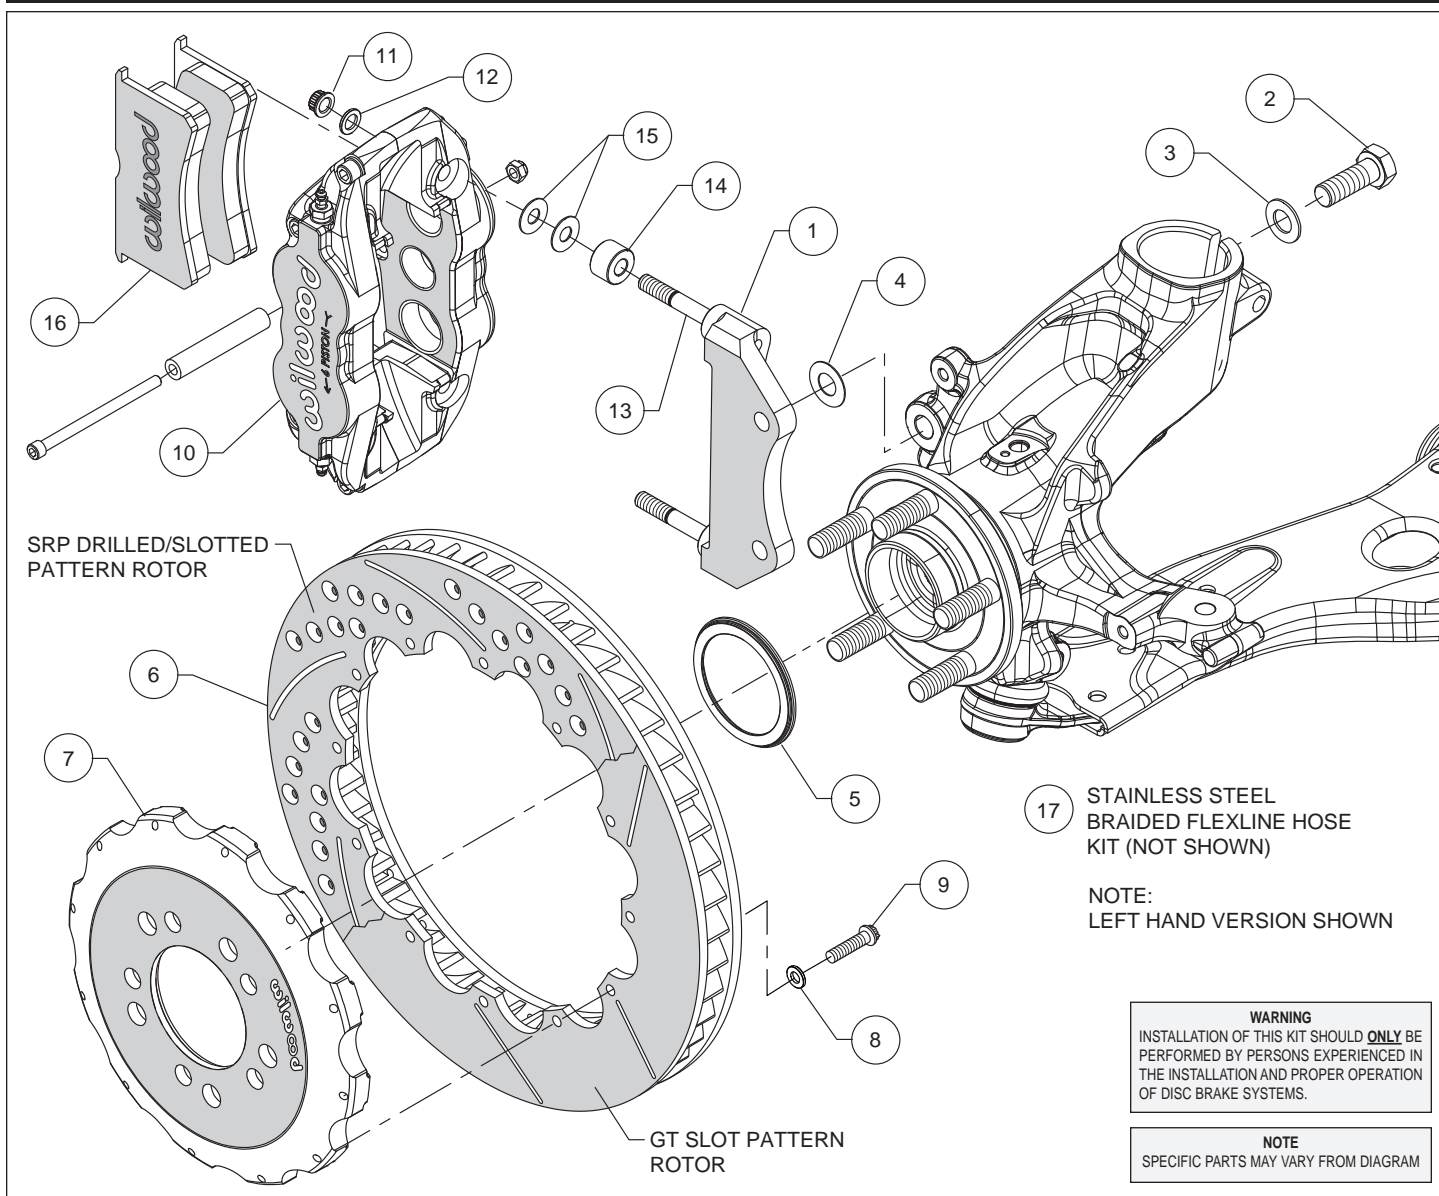
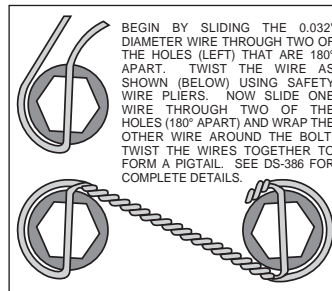

Figure 1. Typical Installation Configuration
Figure 3. Safety Wire Diagram
Assembly Instructions (numbers in parenthesis refer to the parts list and Figure 1 on the preceding pages):
- The caliper mount bracket (1) should initially be installed with clean, dry threads on the mounting bolts. Orient the bracket as shown in Figure 1 and Photo 1, and install using washers (3) and bolts (2). Initially place one .029 thick shim (4) on each bolt between the bracket and upright, Figure 1. Temporarily tighten the mounting bolts. **NOTE:** *The bracket must fit squarely against the mount bosses on the upright.* Inspect for interference from casting irregularities, machining ridges, burrs, etc. Later, after the caliper alignment has been checked, the mount bolts will be secured using red *Loctite*[®] 271.
- Orient the rotor (6) and the hat (7) as shown in Figure 1 and Photo 2. Attach rotor to hat using bolts (9) and washers (8). Using an alternating sequence, apply red *Loctite*[®] 271 to the threads, and torque to 155 **in-lbs**. For an added measure of security, the bolts may be safety wired using standard 0.032 inch diameter stainless steel safety wire as shown in Figure 3. Please refer to Wilwood's data sheet DS-386 (available at www.wilwood.com/Pdf/DataSheets/ds386.pdf) for complete safety wire installation instructions.
- Slide the rotor registration adapter (5) onto the axle register on the axle hub with the smaller O.D. facing outward, Photo 3. Slide the hat/rotor assembly onto the axle hub. **NOTE:** *The hat must fit flush against the axle hub flange or excessive rotor run out may result.* Install three lug nuts (finger tight) to keep the hat/rotor assembly in place while continuing with the installation.
- NOTE:** *This kit contains distinct right and left hand calipers that must be mounted in a specific direction, as described below.* Lubricate the caliper mounting studs (13) with lightweight oil. Initially place two .035" thick shims (15) and one spacer (14) on each stud as shown in Figure 1 and Photo 4. Mount the caliper (10) onto the bracket (1) using lock nuts (11) and washers (12), Figure 1. Ensure that the caliper is mounted so that the largest pistons are at the rotor exit end of the caliper, in relation to the direction of rotor rotation. Temporarily tighten the lock nuts and view the rotor through the top opening of the caliper. The rotor should be centered in the caliper, Photo 5. If not, adjust by adding or subtracting shims (4) between the bracket and the upright. Always use the same amount of shims on each of the two mounting bolts. Once the caliper alignment is correct, remove the bracket mounting bolts (2) one at a time, apply red *Loctite*[®] 271 to the threads, and torque to 60 ft-lb.